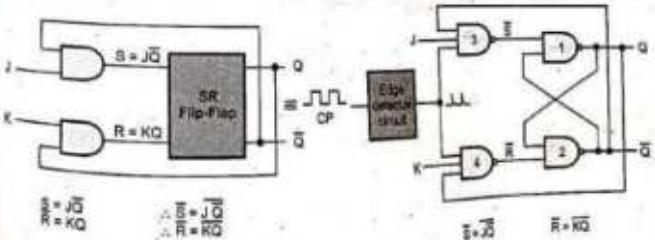

Fig. 5.4.20 JK flip-flop using NAND gates
- The Fig. 5.4.20 shows the modified circuit of JK flip-flop which has only NAND gates.